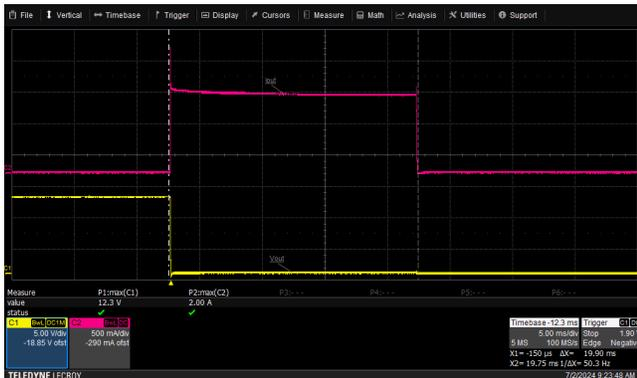

Figure 7. OC Event @ Load: 12 V, 2 A. ILIM – 1.2 A, CL Shift = 0%, CL Shutdown Time – 20 ms
In Figure 7 (5 ms/division) the red signal (Channel 2, 500 mA/div) is the load current of 2000 mA that causes the overcurrent (OC) event. The protection is triggered as soon as the current exceeds the maximum allowed value of 1200 mA (ILIM, CL pin shorted to ground) which is observed by the fall of output voltage (Channel 1 – yellow, 5.0 V/div). Within less than 20 ms – typical current limit shutdown time Tlatch0– the output current is switched off automatically by the NCV760040.